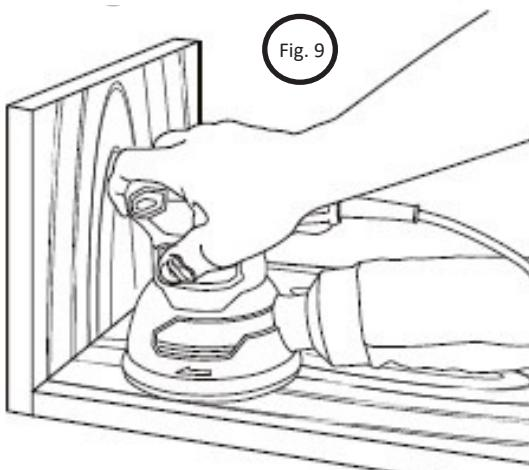

Fig. 9
**NOTE:** The front edge of the sander allows for flush sanding. See Figure 9.